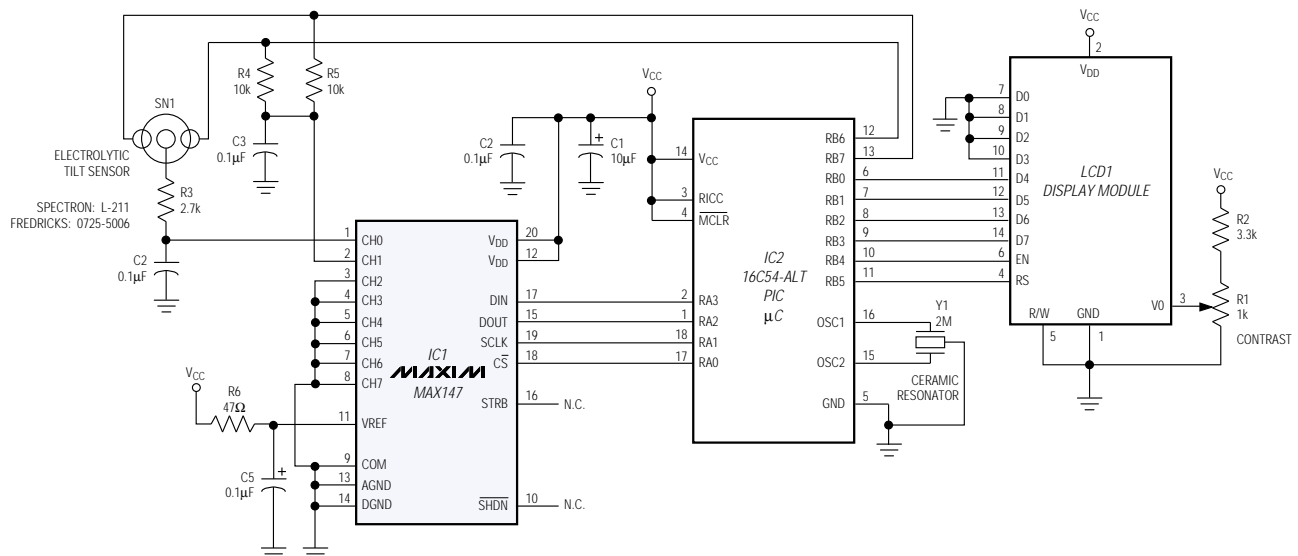

Figure 1. This tilt sensor is simple, accurate, inexpensive, and adjustment free.
**Figure 1** is an inclinometer (tilt-measuring circuit) whose sensor (SN1) is filled with liquid electrolyte. Acting as a potentiometer, the inclinometer produces a voltage proportional to tilt on its center electrode. Because the liquid is subject to electrolysis, the sensor's forcing voltage must be AC with an average DC component of zero. IC1 is an 8-channel, 12-bit analog-to-digital converter (ADC) that digitizes the sensor output for use by IC2, the microcontroller ( $\mu\text{C}$ ).
Conditioning circuitry for this sensor type usually includes op amps, analog switches, and potentiometers. Because potentiometer settings drift with time and temperature, such systems require periodic recalibrations based on a precise and tedious procedure. The synchronous approach shown in Figure 1 not only